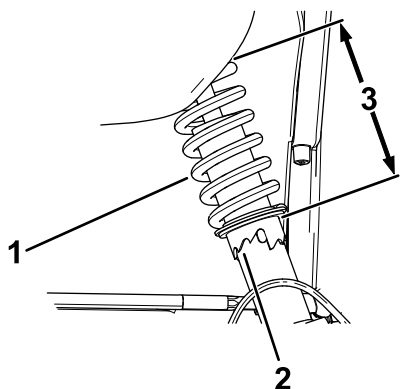

Figure 40
- If the wheel camber is out of alignment, use the spanner wrench to rotate the collar on the shock absorber to align the wheel (Figure 40).